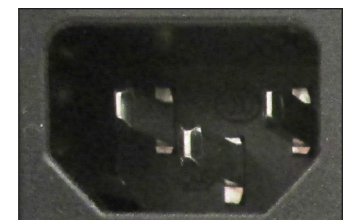

Figure 7: Power Jack
1. Connect the power cord to the power jack. Refer to **Figure 7**.